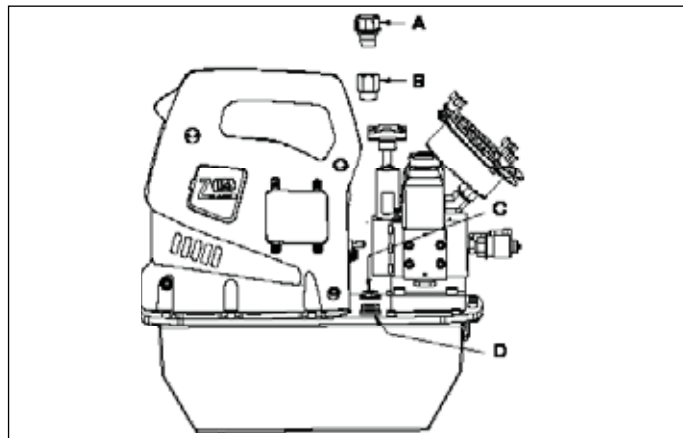
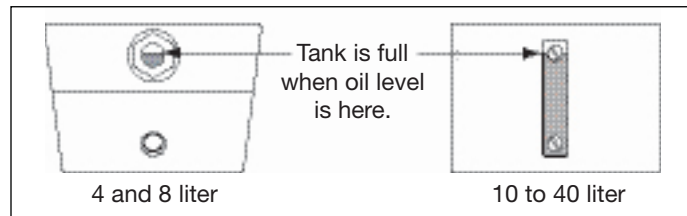

Figure 2, ZU4 Breather Installation
Figure 4, Sight Glass
4.1 Reservoir Breather Cap (See Figure 2)
Check the pump oil level prior to start-up, if necessary add oil by removing the SAE #10 plug from the cover plate (see Figure 2). The reservoir is full when the oil level is as shown in Figure 4.